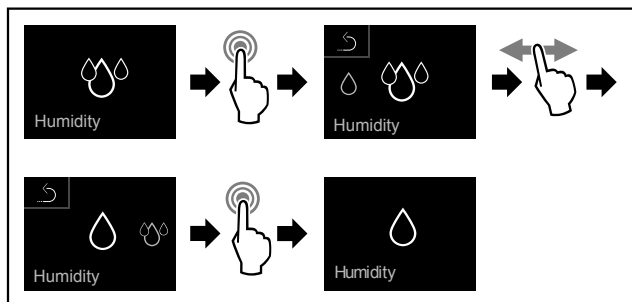

Fig. 70
- ▶ Complete the steps (see Fig. 70).